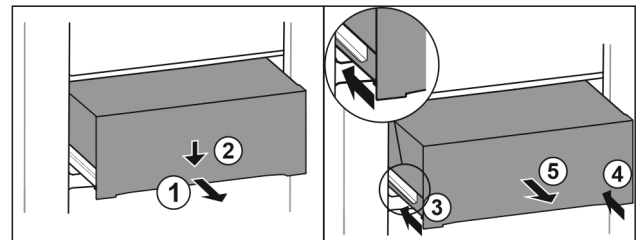

Fig. 127
- Pull out drawer half-way. Fig. 127 (1)
- Push the drawer down at the front. Fig. 127 (2)
- Push the left rail in by about 2 cm. Fig. 127 (3)
- Push the right rail in by about 2 cm. Fig. 127 (4)
- Remove drawer to the front. Fig. 127 (5)